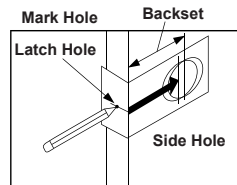

Fig. 12
**Step 1.** Using the provided template, mark the locations for the centers of the backset and the latch hole (Fig. 12).